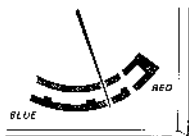

Fig. 8-2. Level meter setting
3. Adjust R532 so that the pointer of the level meter is positioned as shown in Fig. 8-2